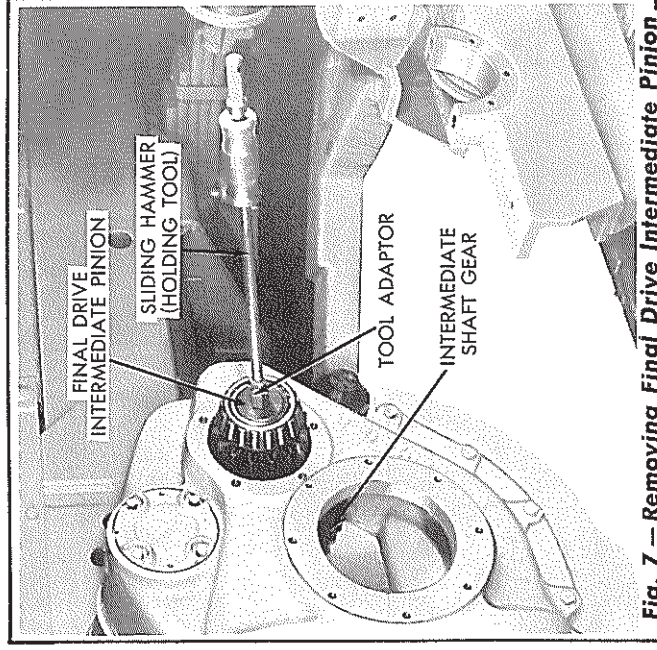

Fig. 7 — Removing Final Drive Intermediate Pinion
2. Remove the capscrews attaching the intermediate pinion outer bearing cage to the final drive housing. Remove the outer bearing cage by using two (2) $\frac{1}{2}$ " NC pusher screws in the two (2) tapped holes in the bearing cage. Tie the bearing adjustment shims to the outer bearing cage so that they will not be lost.
3. Use a sliding hammer (holding tool), similar to the one shown in Fig. 7, to support and to remove the intermediate pinion. Screw the tool adaptor into the tapped hole in the end of the intermediate pinion and pull the pinion out far enough to remove the intermediate shaft gear retaining locks. Remove the intermediate shaft gear retaining locks. Block the intermediate shaft gear in position and pull the intermediate pinion from the gear and remove the gear from the final drive housing.
4. Remove the outer bearing cage, as described previously in "REMOVAL OF FINAL DRIVE INTERMEDIATE PINION AND GEAR." Keep the bearing adjustment shims with the outer bearing cage. Remove the intermediate pinion using a tool similar to the one shown in Fig. 7. **IMPORTANT:** Keep the bearings clean.